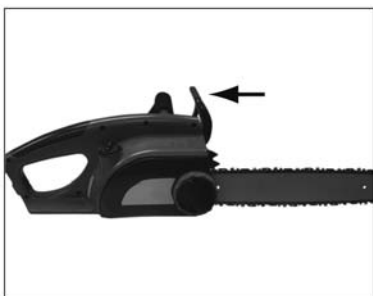
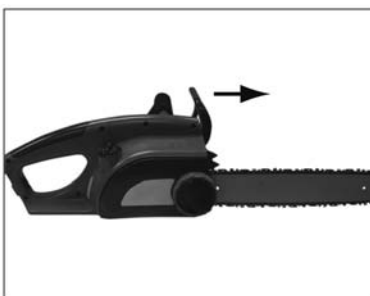

Fig.9A
Fig.9B
activated if pressure is applied against the guard or when, in the event of kickback, the operator's hand strikes the lever. When the chain brake is activated, chain movement abruptly stops and the power supply to the motor is immediately cut off. The purpose of the chain brake is to reduce the possibility of injury due to kickback. The chain brake cannot, however, provide the measure of intended protection if the saw is carelessly operated. The chain brake is disengaged (chain can move) when the brake is pulled back and locked. This is the normal running position (Fig. 9A). The chain brake is engaged (chain cannot move) when the brake is in forward position (Fig. 9B).
- A. Make sure the chain brake is disengaged (Fig. 9A).